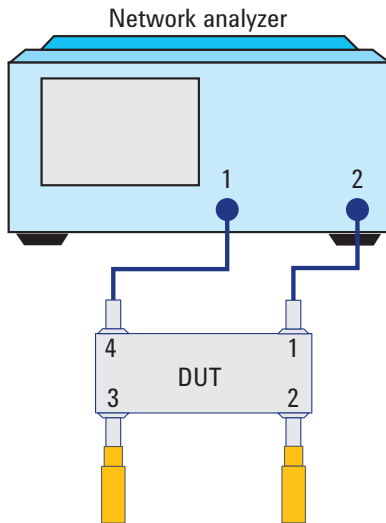

Figure 16. Equipment setup using network analyzer with coupler port 1 and port 4
9. Connect the DUT as shown in Figure 16. Measure and record **isolation S41 and S44 SWR**.